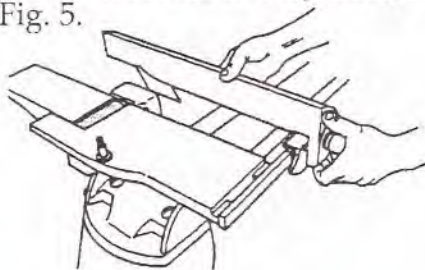

Fig. 5
9. Re-install the fence on the jointer, as shown in Fig. 5.